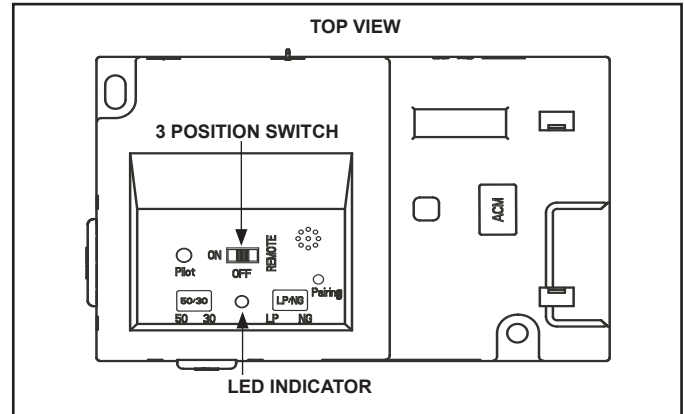

Figure 3.6 IFT-ECM
The Intellifire™ Touch intermittent pilot ignition system comes with a battery backup system that enables the system to operate in a power outage. The system offers seamless transition from household AC power to battery backup. A factory-installed battery pack is located in the control cavity of the appliance. See Figure 3.6. Battery longevity and performance will be affected by long term exposure to the service temperatures of this appliance.
1. The Electronic Control Module (IFT-ECM) has a three-position ON/OFF/REMOTE selector switch that must be set for proper operation. See Figure 3.6. When changing switch positions, it is important to pause in each position for 1-2 seconds.
The appliance has a reset switch located inside the control cavity. See Figure 3.6 for approximate location.
- Locate reset switch inside the appliance. See Figure 3.6. Hold reset switch down for one second and release. A “beep” will signal module is reset.